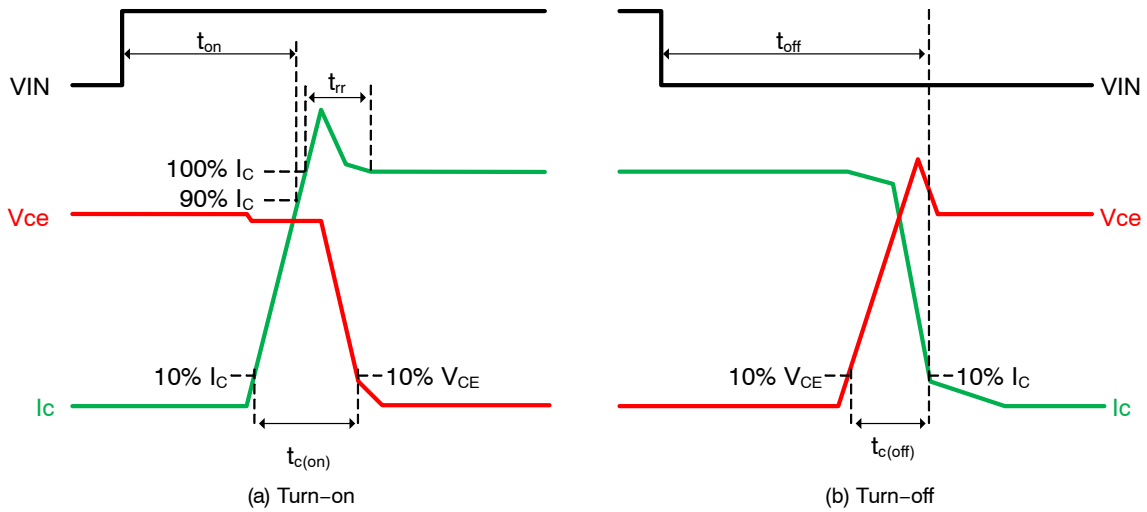
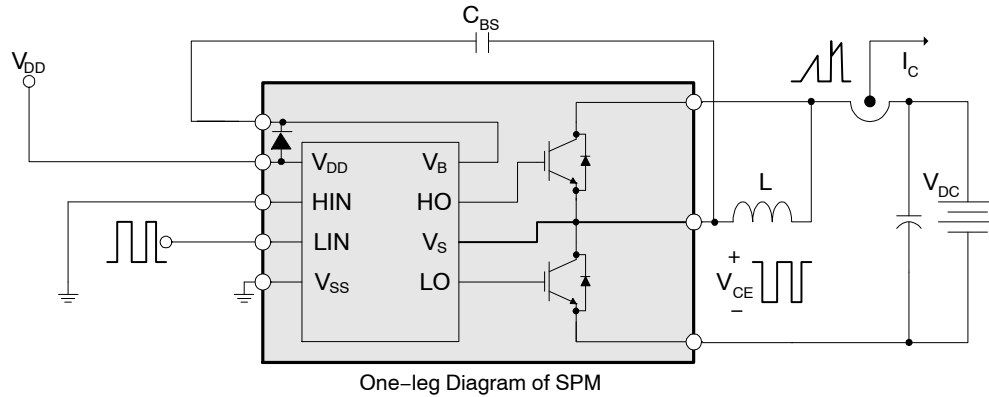

Figure 6. Switching Time Definitions
Figure 7. Switching and RBSOA (Single-pulse) Test Circuit (Low-side)
- $t_{ON}$  and  $t_{OFF}$  include the propagation delay time of the internal driver IC. Listed values are measured at the laboratory test condition, and they can be different according to the field applications due to the effect of different printed circuit boards and wirings. Please see Figure 6 for the switching time definition with the switching test circuit of Figure 7.
- The peak current and voltage of each IGBT during the switching operation should be included in the Safe Operating Area (SOA). Please see Figure 7 for the RBSOA test circuit that is same as the switching test circuit.